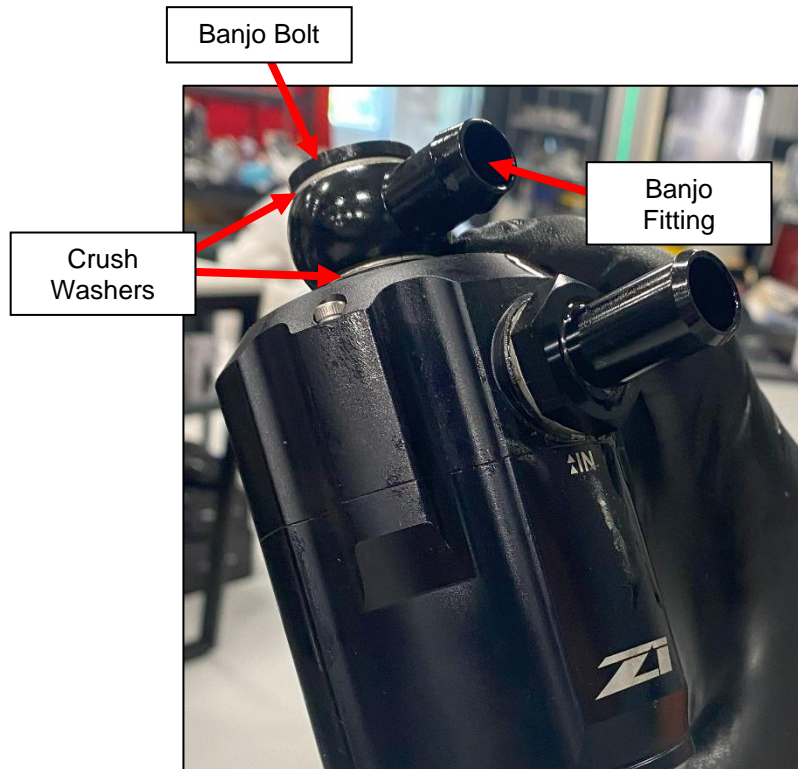

Figure 4
7. Locate the Banjo Bolt, Banjo Fitting, and (2) two Crush Washers. Install the Banjo Bolt with a Crush Washer through the Banjo Fitting and install the other Crush Washer on the other side. Loosely thread this assembly into the top of the Catch Can. *Figure 4*.